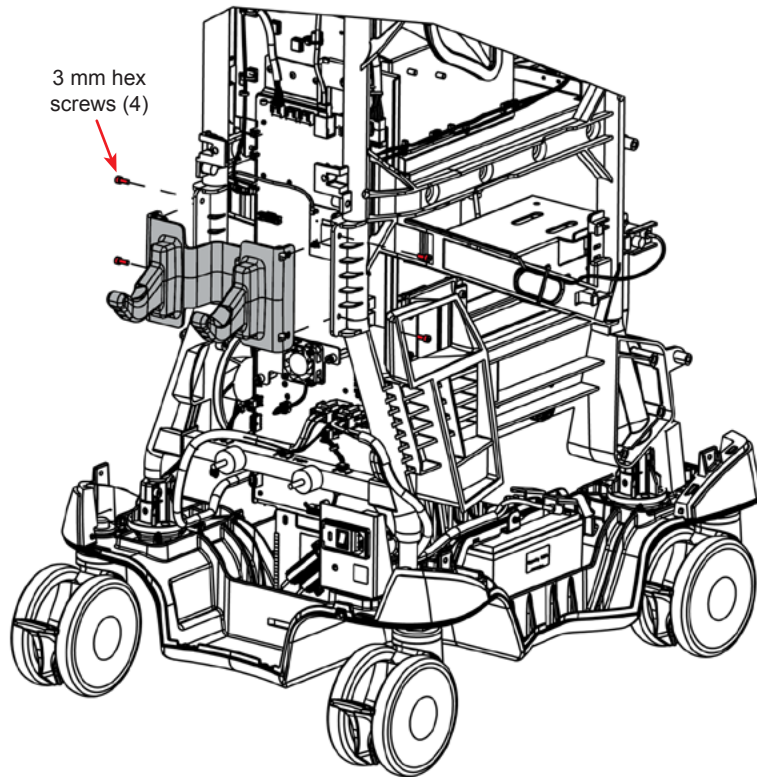

Figure 3-34 Footswitch Hook Removal (shown with IV Pole removed)
- 31.2 Remove four 3 mm hex screws securing footswitch hanger to chassis (see Figure 3-34).